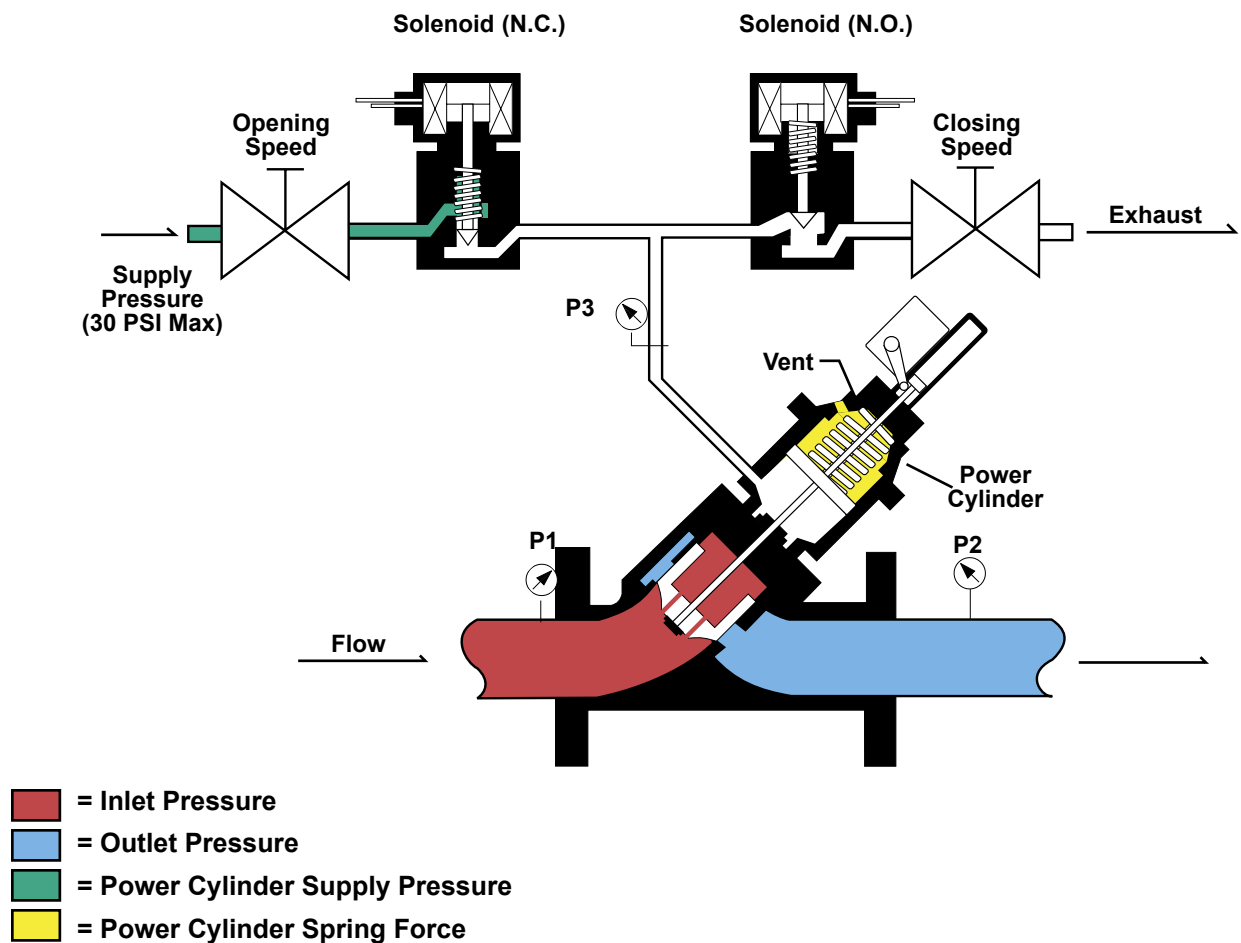

Figure 7-8
The total system consists of four pieces of equipment: (1) a flow meter, (2) a preset counter, (3) dual sequencing switches, and (4) a two-stage electric shut-off valve. The preset counter is the device used to set the predetermined volume of liquid that is to be controlled by the valve. The valve closes in two stages. The first stage closure reduces the flow rate through the valve to approximately 10% to 20% of the rated capacity of the meter. The second stage closes the valve when the predetermined volume of liquid has passed through the meter. See Figures 7-8, 7-9 and 7-10.